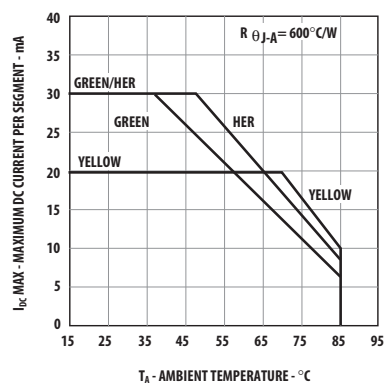

Figure 9. Maximum Allowable DC Current vs. Ambient Temperature. $T_{JMAX} = 100^{\circ}$ C.
6. Derate maximum DC current for HER above $T_A = 48^\circ\text{C}$ at $0.58 \text{ mA}/^\circ\text{C}$, Yellow above $T_A = 70^\circ\text{C}$ at $0.66 \text{ mA}/^\circ\text{C}$, and Green above $T_A = 37^\circ\text{C}$ at $0.48 \text{ mA}/^\circ\text{C}$. See Figure 9.